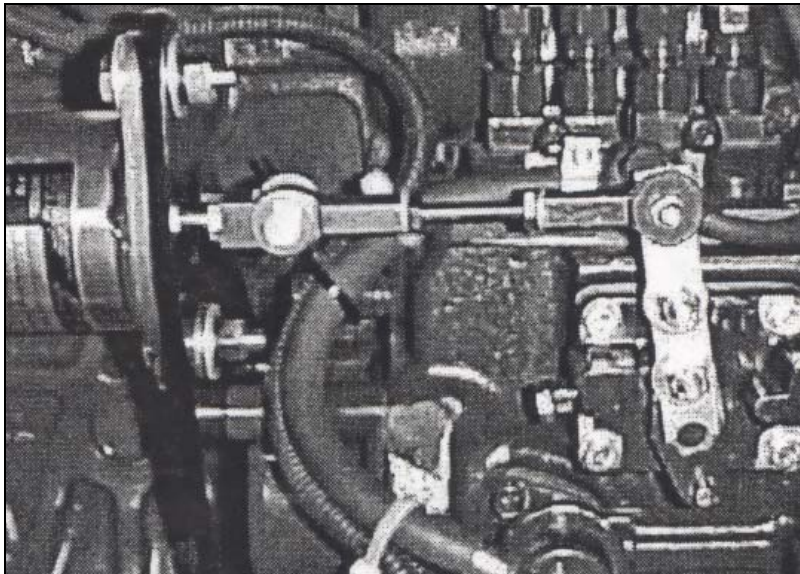

Figure 11 Attach Rod End to Extension Lever
3. Attach the rod end to the extension lever using one 1/4-20 x 1 1/4" bolt, two 1/4" washers, and one 1/4-20 locknut. The rod end must be on the outside of the extension lever (**Figure 11**).